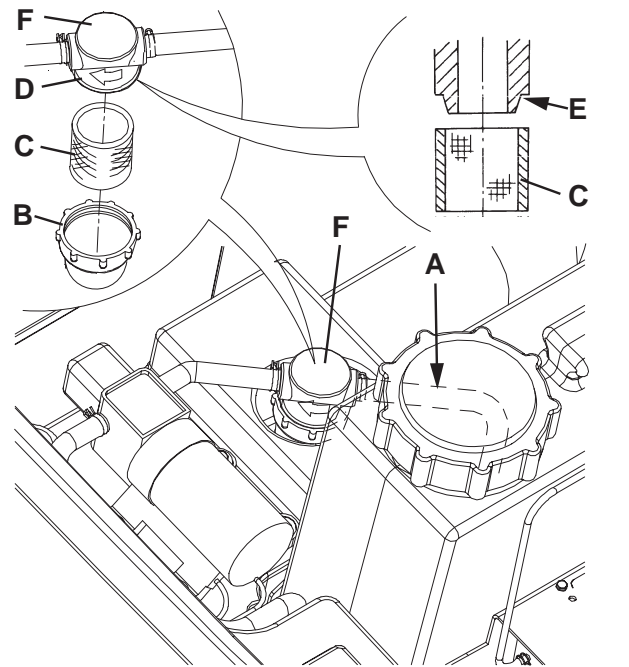

Figure 9
2. Turn the ignition key (80) to "0" position.
3. Open the cover (22) and check that the recovery water tank (21) is empty, otherwise empty it with the drain hose (16).
4. Grasp the handle (41) and carefully lift the tank (40).
5. Slightly lift the hoses (A, Fig. 9), then, operating on the clean water filter assembly (F) unscrew the transparent cover (B) and remove the filter strainer (C). Clean and install them on the support (D).